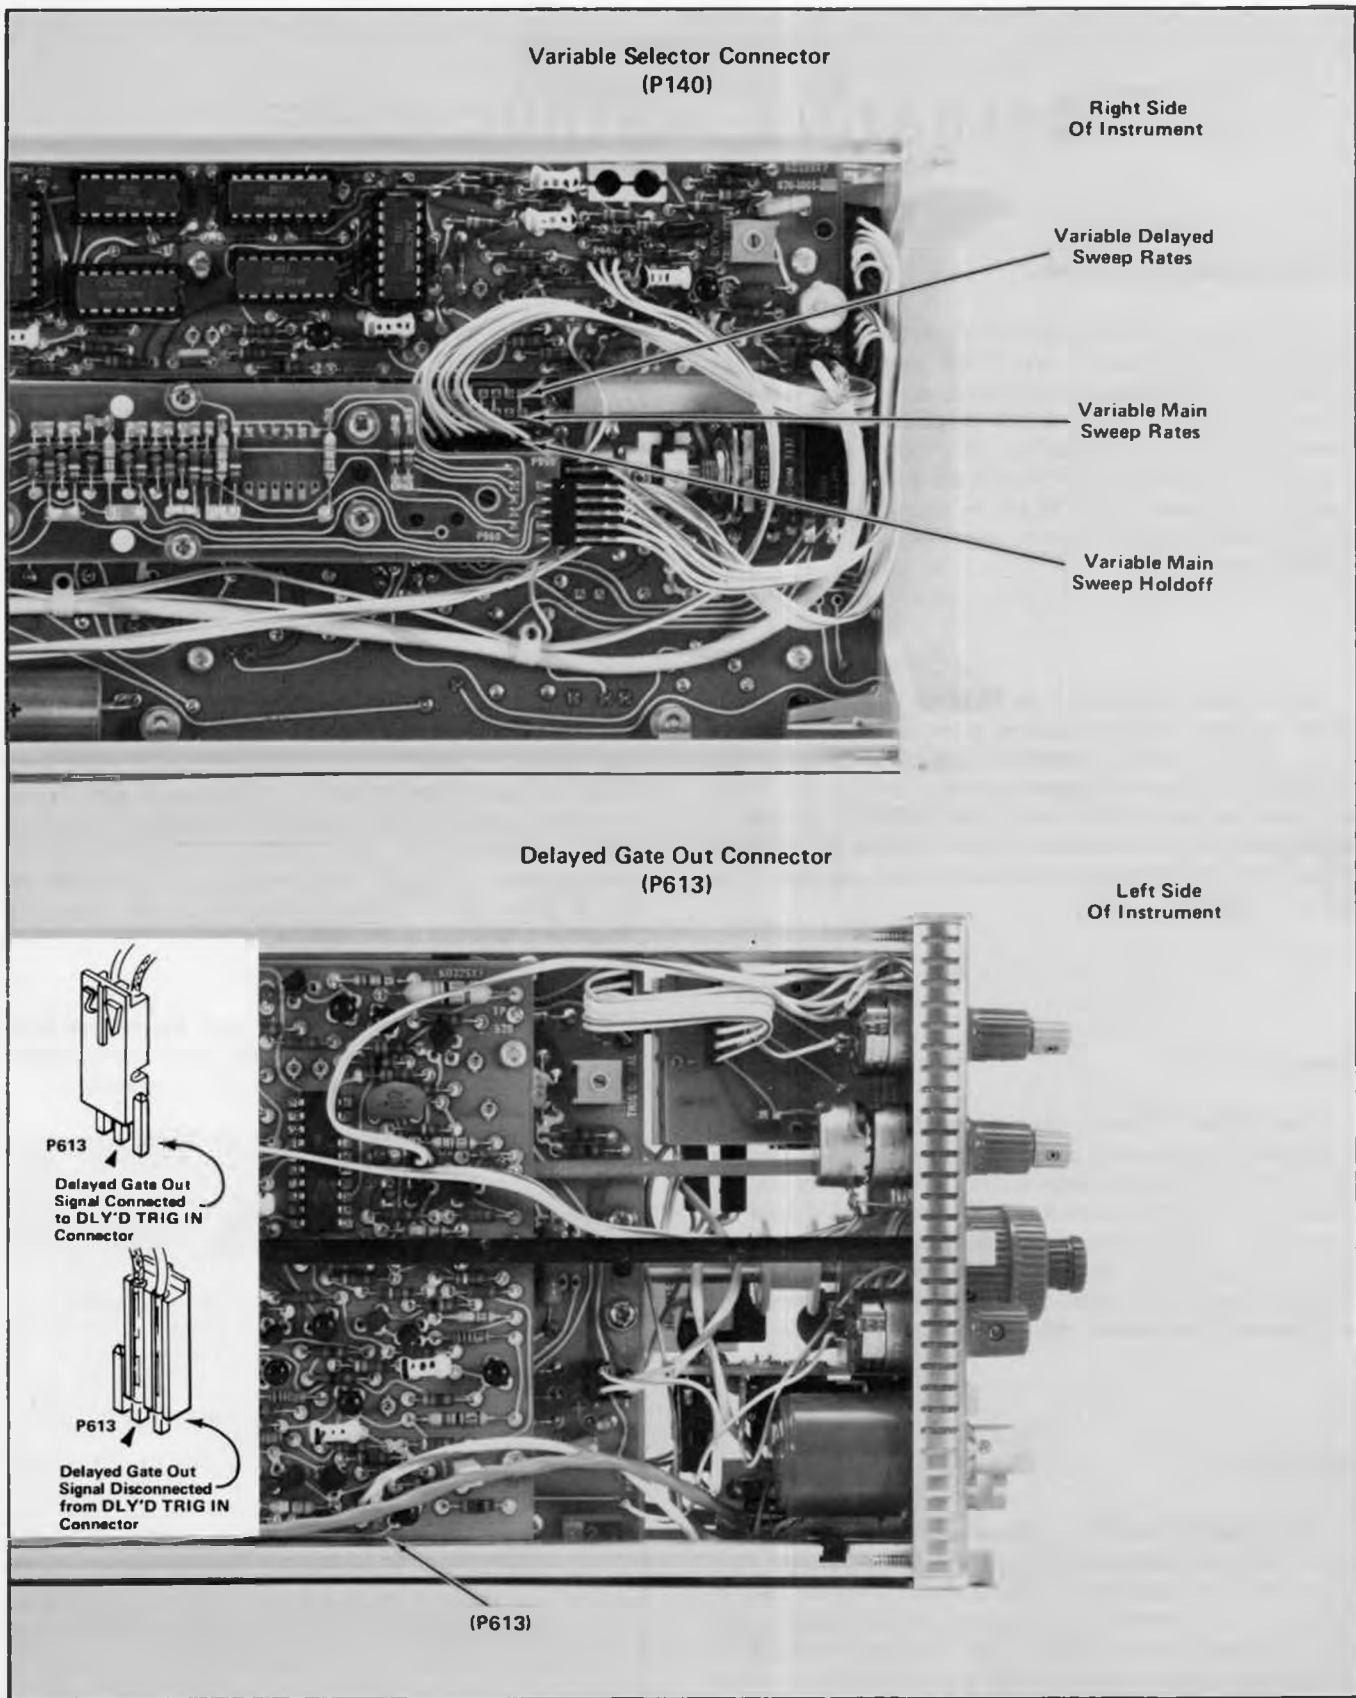
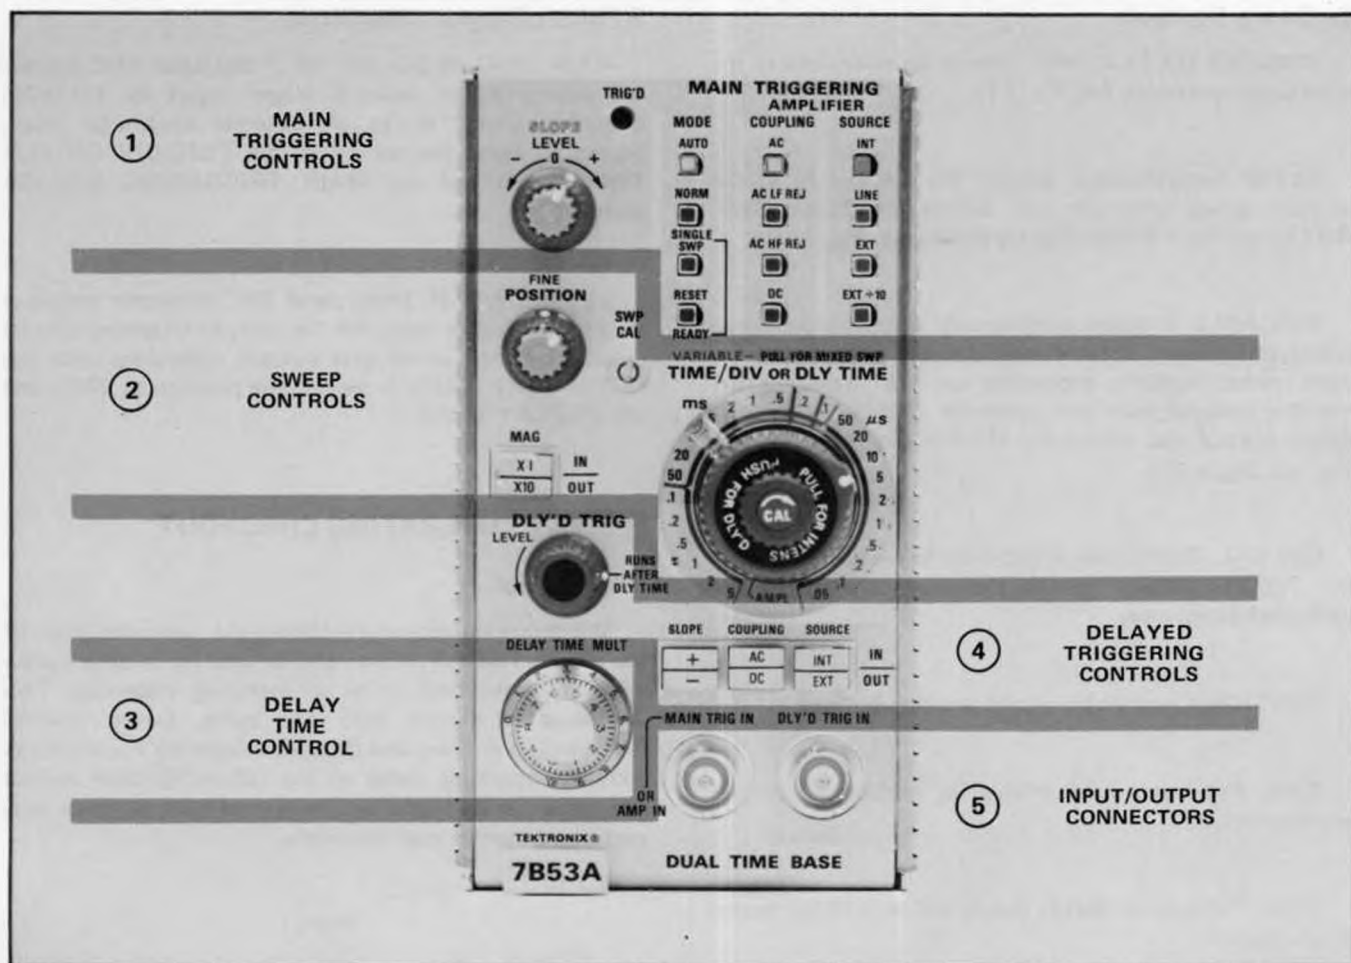

Fig. 1-3. Location of Delayed Gate Out and Variable Selector multi-pin connectors.
Fig. 1-4. Front-panel controls and connectors.
Before proceeding with installation it is necessary to check the settings of the Variable Selector multi-pin connector (P140) and the Delayed Sweep Gate Out multi-pin connector (P613). The Variable Selector multi-pin connector (P140) determines whether the front-panel VARIABLE control varies main sweep rates, delayed sweep rates, or main sweep holdoff; the Delayed Sweep Gate Out multi-pin connector (P613) determines whether the Delayed Sweep Gate Out signal is connected to the front-panel DLY'D TRIG IN connector (see Fig. 1-3). Refer to General Operating Instructions in this section for VARIABLE control and DLY'D GATE OUT information.
All controls required for the operation of the 7B53A/7B53AN, except the Variable Selector and the Dly'd Sweep Gate Out connector (see Fig. 1-3), are located on the front panel of the instrument. To make full use of the capabilities of this instrument, the operator should be familiar with the function and use of each control. A brief description of the front-panel controls and connectors is given here. More detailed information is given under General Operating Information. Fig. 1-4 shows the front panel and external controls and connectors of the 7B53A/7B53AN.
**VARIABLE.** Provides continuously variable main sweep rates, continuously variable delayed sweep rates, or variable main sweep holdoff; depending on the setting of the Variable Selector multi-pin connector (P140). The VARIABLE control also selects the MIXED Display Mode (see Fig. 1-3, Fig. 1-7).